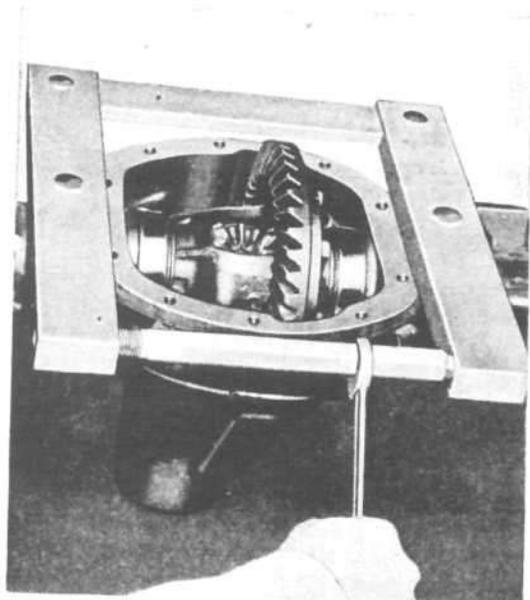
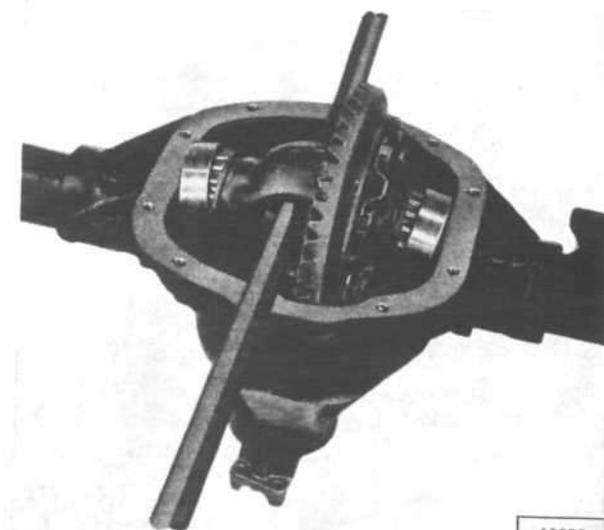

FIG. 244—DIFFERENTIAL CARRIER SPREADER
FIG. 245—REMOVING DIFFERENTIAL
- c. Use the housing spreader, Tool W-129 as shown in Fig. 244, to spread the housing. Then remove the differential assembly. Should the spreader tool be unavailable, use two pry bars, one on each side of the differential case opening, to pry out the differential assembly as shown in Fig. 245.